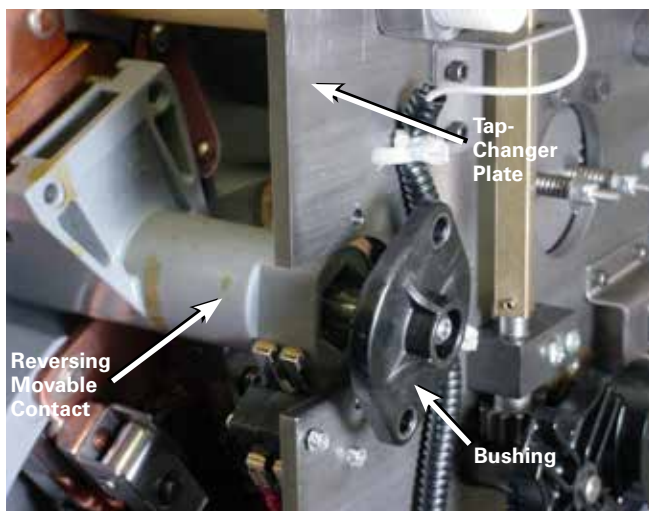

Figure 57. Removing reversing movable contact bushing.
4. Remove the bushing from the reversing actuator shaft. See Figure 57.